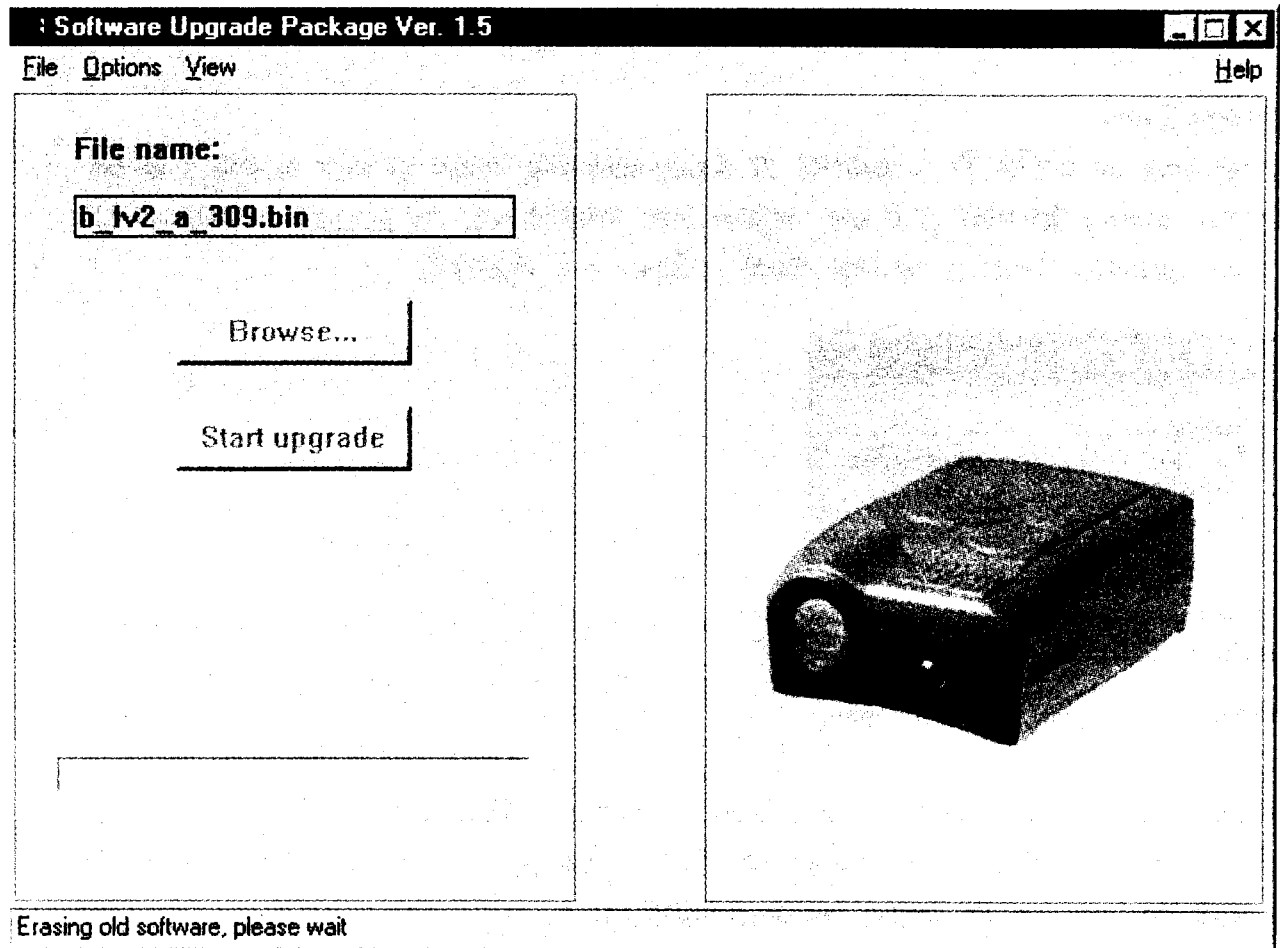

Figure 5: Upgrade process just started. Erasing old software.
- 4) Press the **Start upgrade**-button. The text "Erasing old software, please wait" will appear in the status bar as shown in Figure 5. Note that erasing can last up to two minutes.